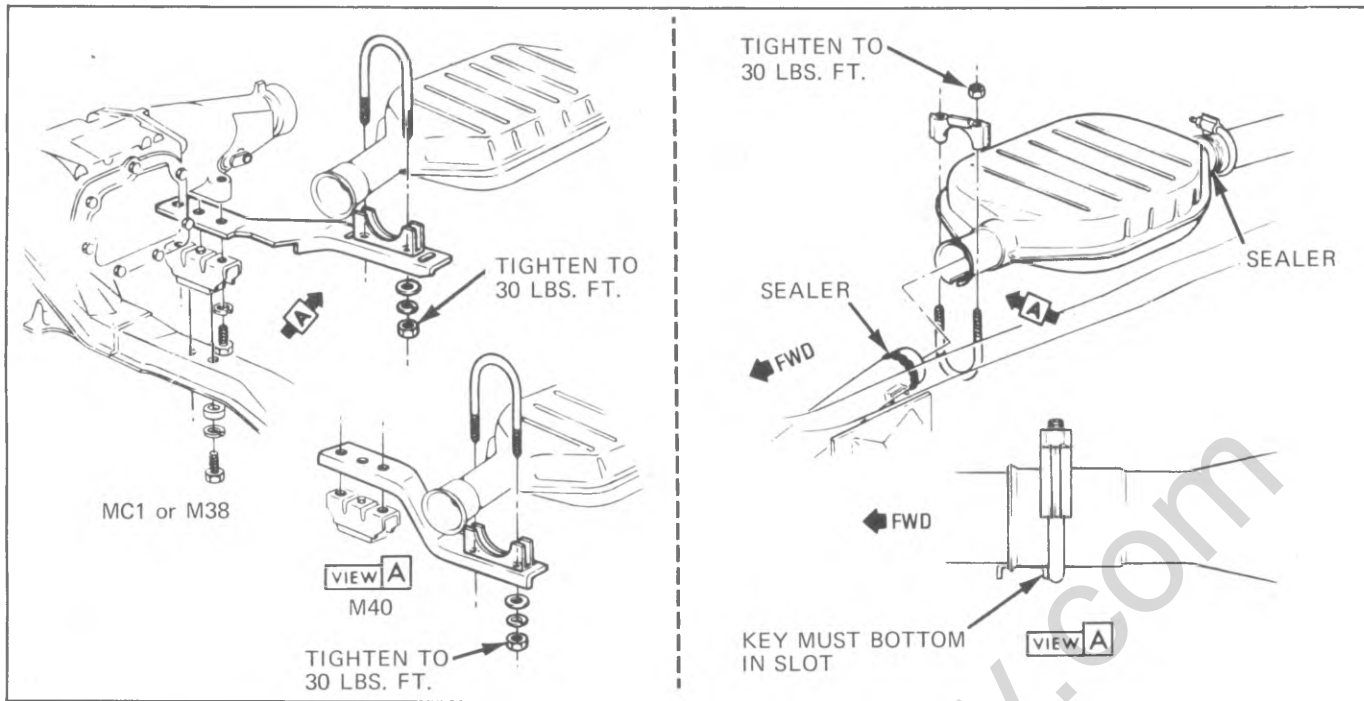

Fig. 6F-1--Catalytic Converter - CK Series
If built with a pressed plug, install service fill plug (Fig. 6F-10), as follows: Install the bolt into the bridge and position the bridge into converter opening. Move bolt and bridge back and forth to dislodge catalyst beads until bridge is positioned (Fig. 6F-11).
9. While holding the fill plug and washer against the bolt head (Fig. 6F-12), thread the bolt 4 of 5 turns into the bridge. Release the fill plug and the aspirator will pull the fill plug into position.
10. After making sure fill plug is correctly seated, tighten the bolt and torque to 28 ft. lbs. (Fig. 6F-13).